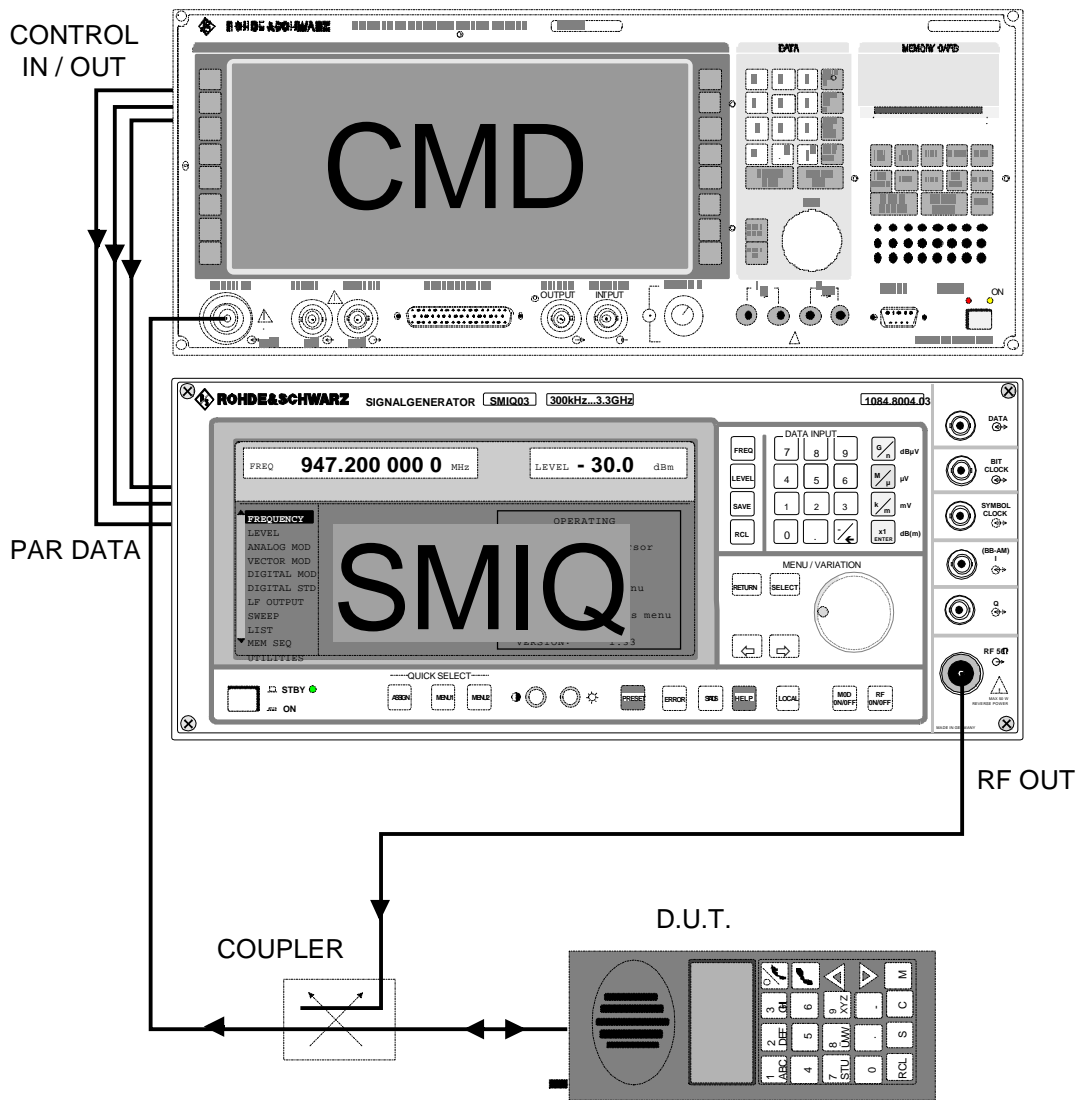

Fig. 2: Test setup with directional coupler and without use of SPECTRUM output of CMD
**Without** use of the **SPECTRUM output** of the CMD, the RF signal from the SMIQ is taken to the DUT via a directional coupler with approx. 20 dB attenuation (Fig. 2). The attenuation of the directional coupler has to be taken into account when setting the SMIQ output level.